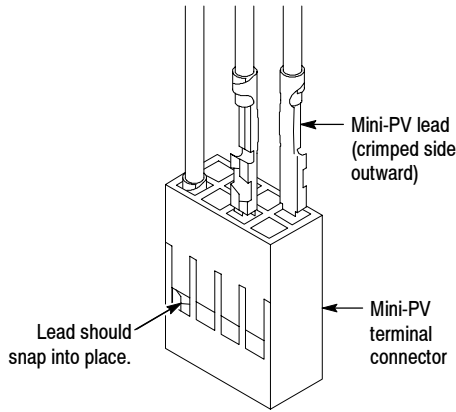

Figure 4: Mini-PV leads and terminal connector
3. For mini-PV lead set connectors, insert the leads into the mini-PV terminal connector. See Figure 4. A properly inserted lead snaps into place and cannot be withdrawn. An improperly installed lead slides out easily.